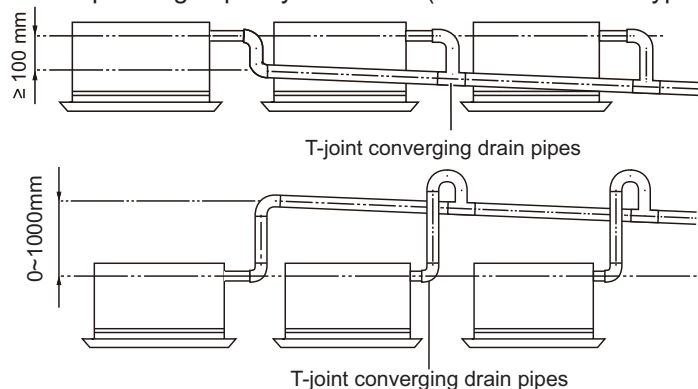

Figure 3-1-51
- When unifying multiple drain pipes, install the pipes as Figure 3-1-51. Select converging drain pipes whose gauge is suitable for the operating capacity of the unit. (take the cassette type unit for example)